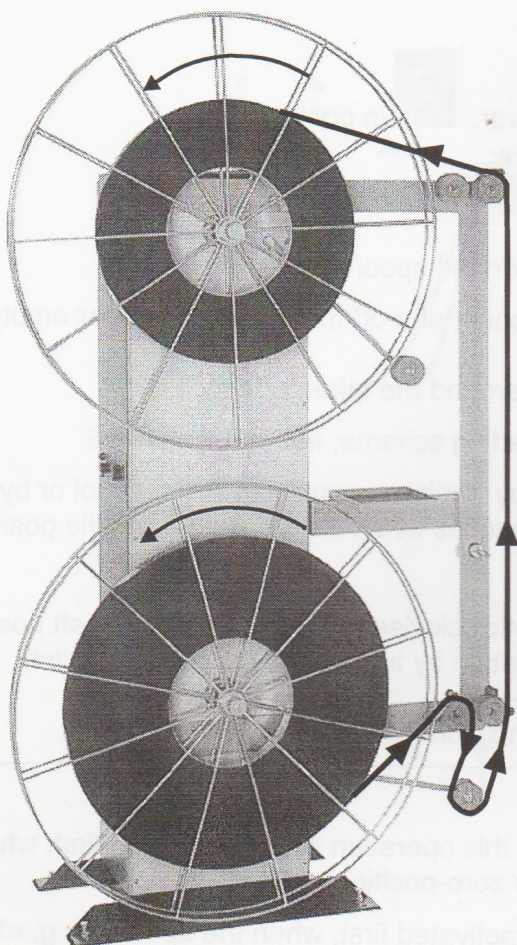

Figure 4-7
5. Thread film, as you can see in threading scheme, figure 4-7 and 4-8.